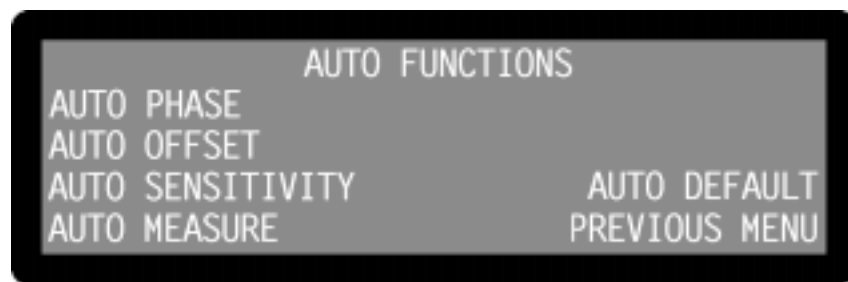

Figure 2-4, Auto Functions Menu
- 6) Press one of the keys adjacent to the Auto Functions menu item to enter the Auto Functions menu, shown below in figure 2-4.